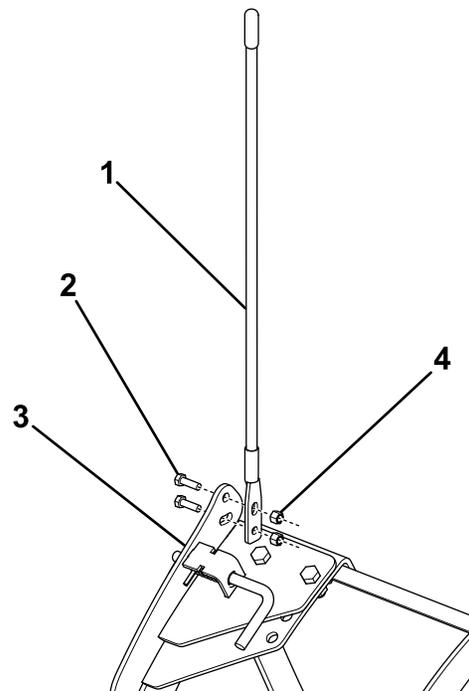

Figure 17
8. Attach a previously removed plow blade guide to the spring bracket (Figure 17), and torque the bolts to 19 N·m (14 ft-lb).